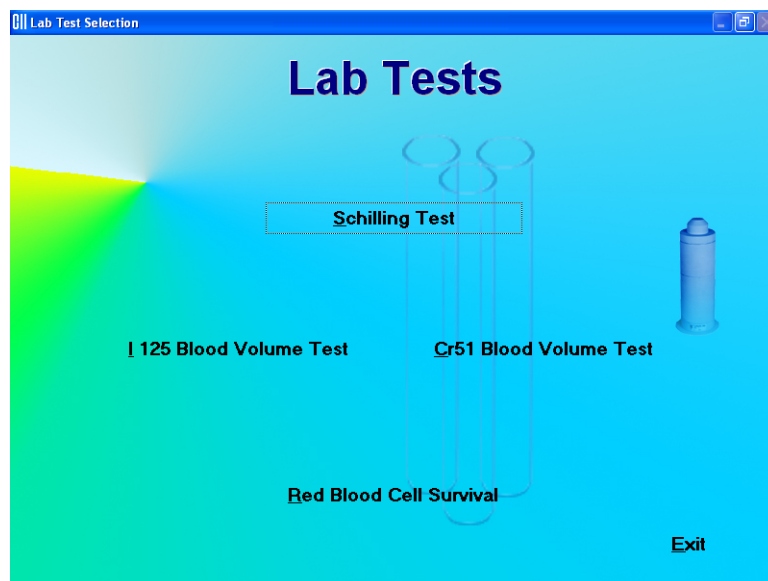
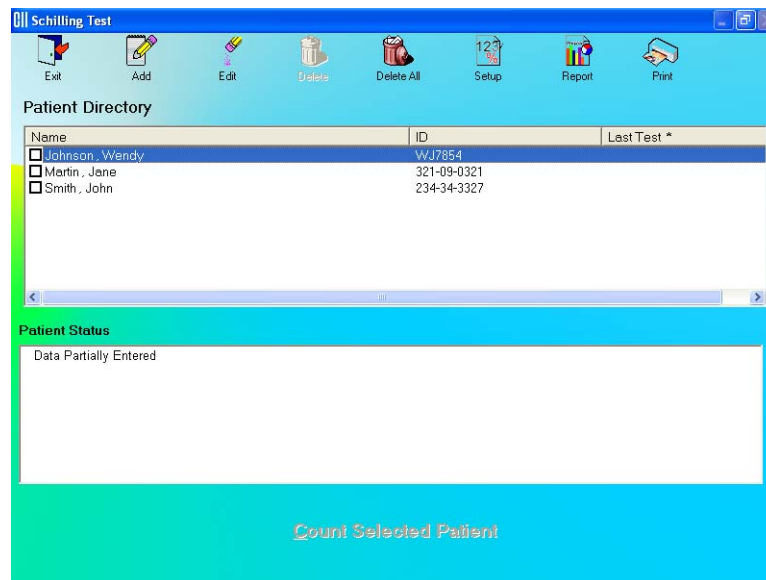

Figure 10-1 Lab Tests Main Screen
Figure 10-2 Schilling Test Main Screen
Click the **Lab Tests** button or press *Alt+L* on the CAPTUS 3000 Main screen to access all the Lab Tests. Figure 10-1 Lab Tests Main Screen will appear.
All the tests in the **Lab Tests** module have the same screen layout. As in Figure 10-2 Schilling Test Main Screen, they have the Exit, Add, Edit, Delete, Delete All, Setup, Report and Print function icons located at the top of the screen. The **Patient Directory** box, displaying the patient records, appears in the middle of the screen. The **Patient Status** box below displays the latest patient information (*For complete results of the patient, use the Report function located at the top of the screen*). The **Count Selected Patient** button at the bottom of the screen is used to perform measurements for a selected patient. The Data Acquisition screen also operates in an identical manner in each test.
Click the **Schilling Test** button or press *Alt+S* on Figure 10-1 Lab Tests Main Screen. Figure 10-2 Schilling Test Main Screen will appear. The **Patient Directory** box will be empty if there are currently no existing patients in the database. Each added patient will appear in this box with their name and ID number along with the time and date the last test was performed. The **Patient Status** box will show the data status of the patient if the test has not yet been performed, or the latest test results.
1. Click the  icon on Figure 10-2 Schilling Test Main Screen. The screen appears as shown in Figure 10-3. This screen allows the user to enter counting parameters, which will be the default settings each time a patient is entered into the Schilling Test Patient Directory. These settings may be changed as needed for any individual patient or patients.
3. Click the  button to save changes or click the  button to discard the changes and return to Figure 10-2 Schilling Test Main Screen.
**Note:** All fields in **bold** are required before you can begin the Schilling Test. However, you may input the **Patient Name**, **Date of Birth** and **Patient ID** alone, click the  button and input the remaining information later. The **Patient Status** box on Figure 10-2 Schilling Test Main Screen will display the message “Data Partially Entered”.
1. Click the  icon on Figure 10-2 Schilling Test Main Screen. The Patient Information screen appears as shown in Figure 10-4, with information to be entered in three sections.
7. To add more patients, click the  icon on Figure 10-2 Schilling Test Main Screen.
4. Click the  button to save changes or click the  button to discard the changes and return to Figure 10-2 Schilling Test Main Screen.